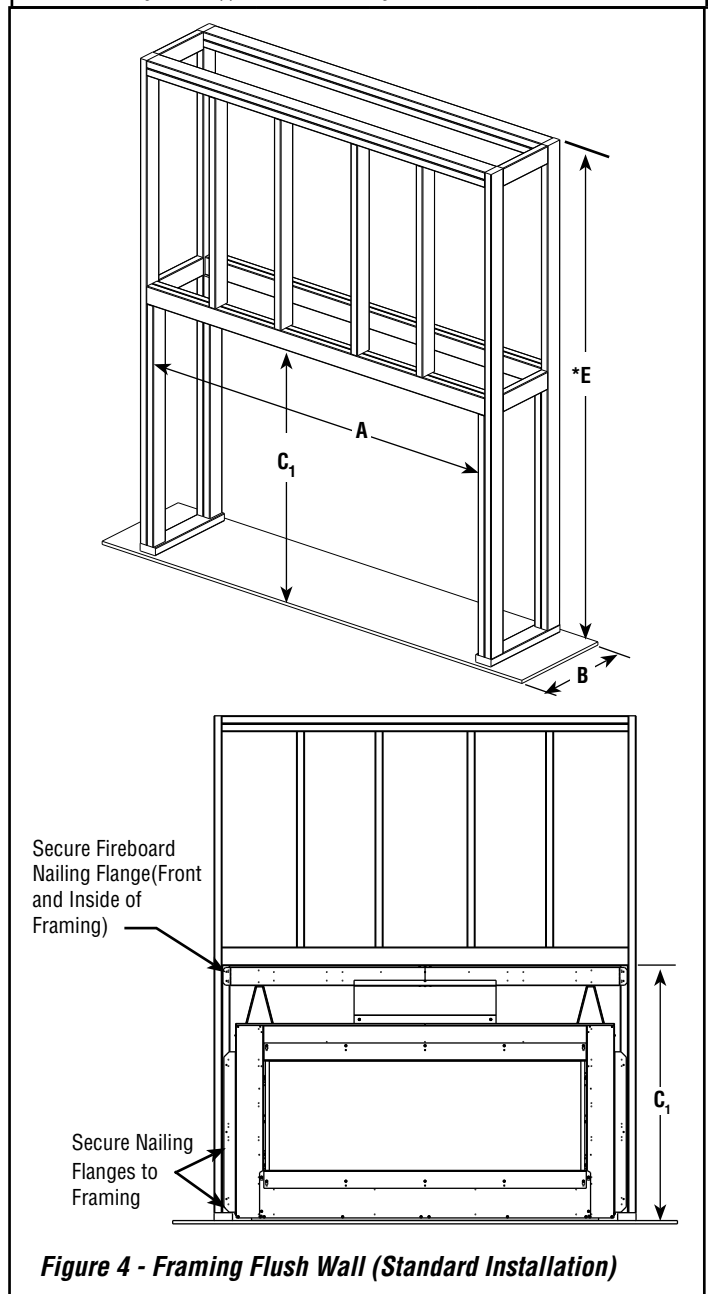

Figure 4 - Framing Flush Wall (Standard Installation)
3. Headers may be in direct contact with the top of the nailing flange, maintaining the 11" clearance to the fireplace top, but must not be supported by them or notched to fit around them after self supporting (*see Figure 4*). All construction above the fireplace must be self-supporting. DO NOT use the fireplace for structural support.